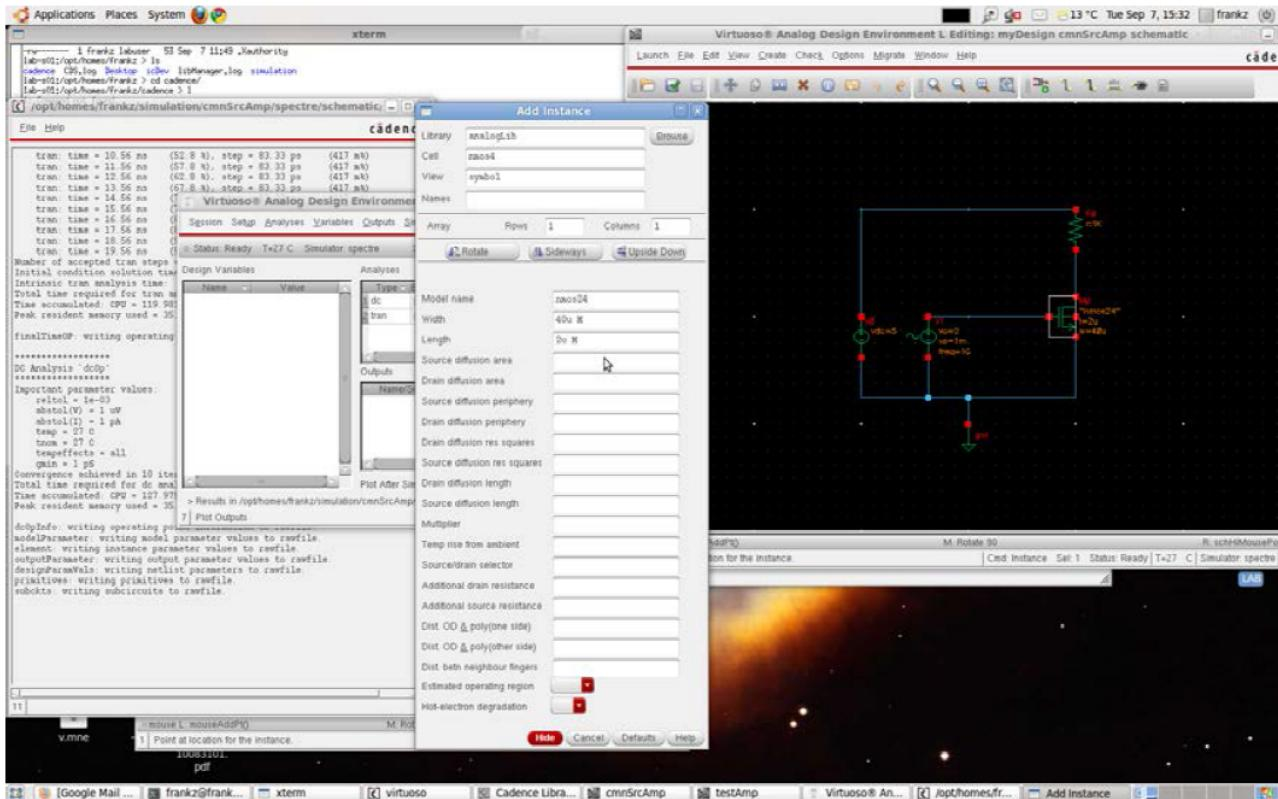

Figure 4: Place NMOS object
- Step 2: The *Add Instance* window, Figure 4, will open. Click browse and it will take you to the Library Manager window
- Step 4: Fill out the object parameters, model name, width, and length as shown in Figure 4. Then click on the schematic window to place the component.